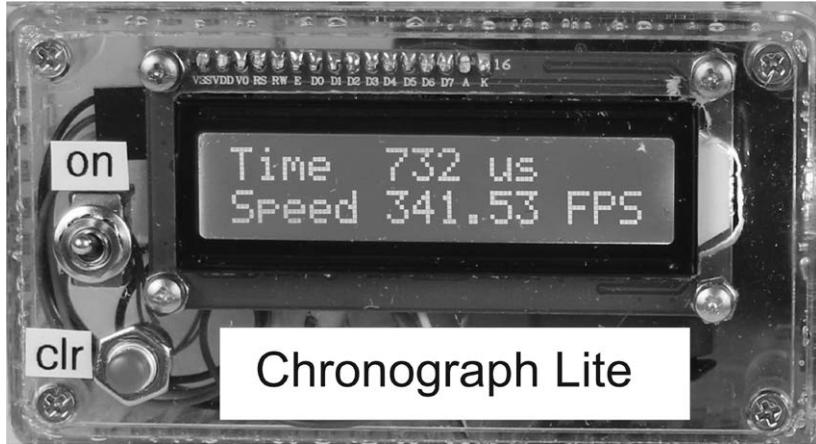

Figure 8-9: Front view of completed Chronograph Lite. A hole is cut into the enclosure to the right of the screen to allow space for the backlight protrusion.
straightforward that it did not require one. I used a Hammond ABS plastic enclosure 1591 BTCL, as indicated in the parts list. See Figure 8-9 for the completed Chronograph Lite.
5. Mount the *on* and *clr* switches as indicated in Figure 8-9.